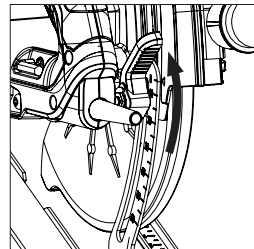

Fig. 10
- Loosen the Depth Adjustment Locking Mechanism by pulling the operating lever upwards. (Fig. 10)